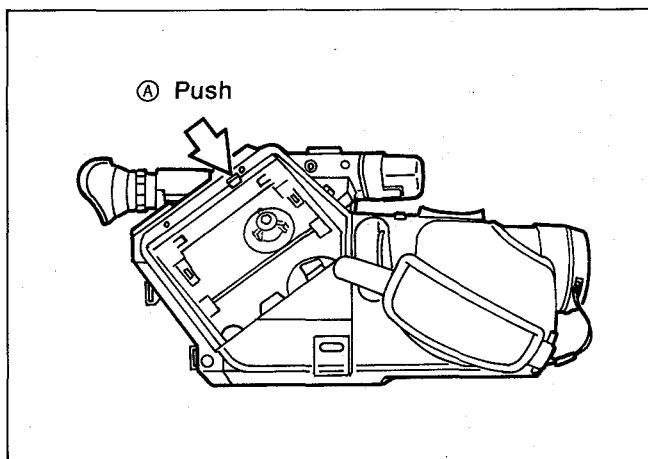

Fig. T9
- (1) In Case that Tape is fully unloaded.
* Remove the cassette cover and push the "A" position as shown in Fig. T9.